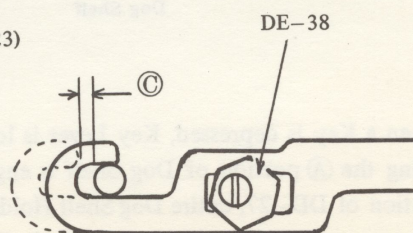

Fig. 6
- c) Adjust the related position in height between DE-35 and DE-9 (Driving Rod) with DE-38 (Eccentric Collar) so that DE-35 will smoothly catch DE-9. (Fig. 6)